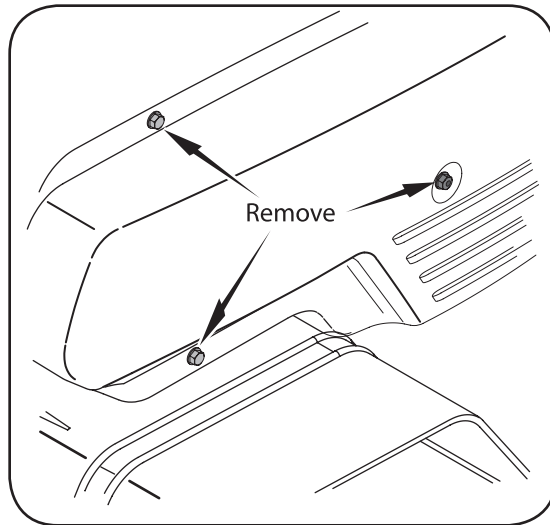

Figure 5-1: Screw and nut removal.
2. Remove the belt cover from the left side of the tiller by removing the two self-tapping screws and hex stop nut and washer. See Figure 5-1.